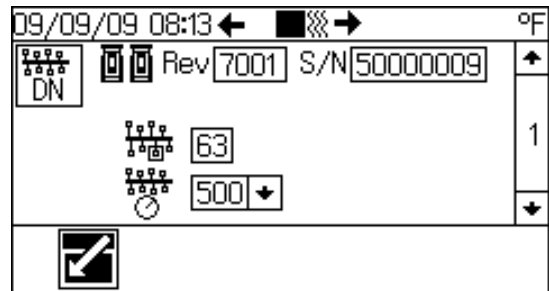

FIG. 10: Device Address
2. Press   to navigate to screen 1. See FIG. 10.